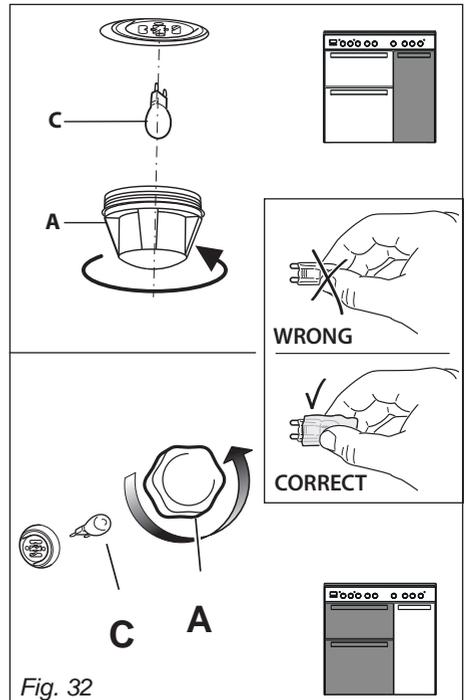

Fig. 32
- Remove the protective cover "A" (fig. 32).